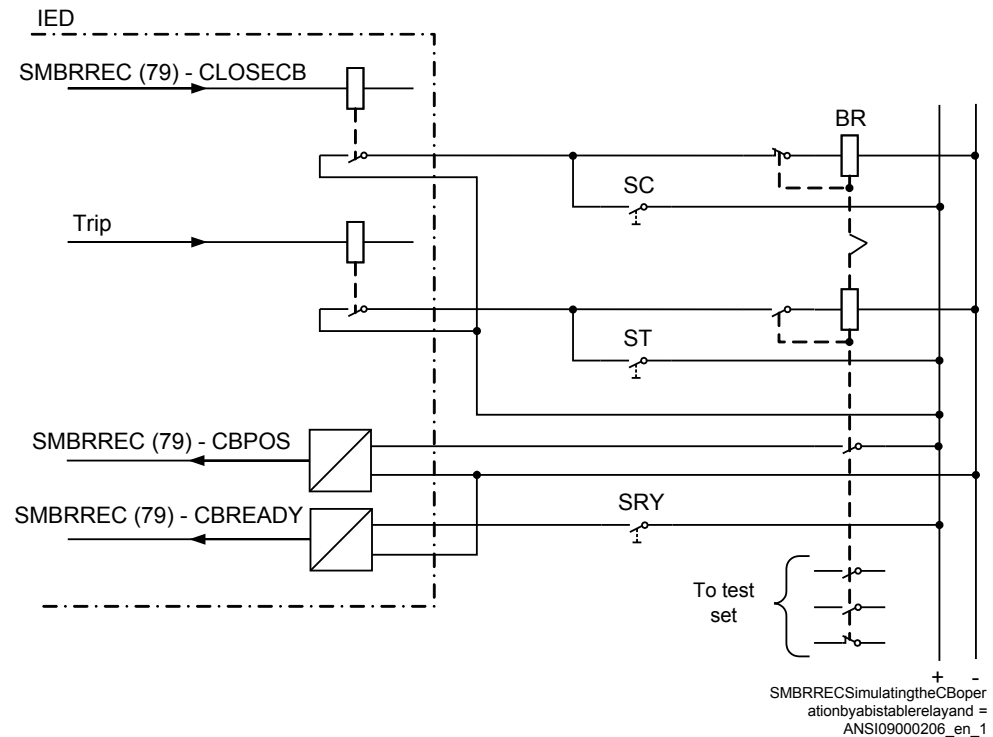

Figure 16: Simulating the CB operation by a bi-stable relay/breaker simulator and manual switches
The verification test is performed together with protection and trip functions. Figure 16 illustrates a suggested testing arrangement, where the circuit-breaker (CB) is simulated by an external bi-stable relay (BR), for example a relay type RXMVB2 or RXMD or Breaker Simulator of ABB. The following manual switches are used:
- Switch or push-button to close (SC)
- Switch or push-button to trip (ST)